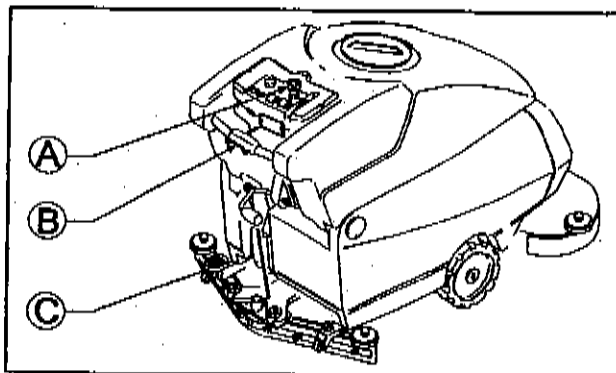

Fig. 3
- disengage the parking brake via the pedal ref. C fig. 3;